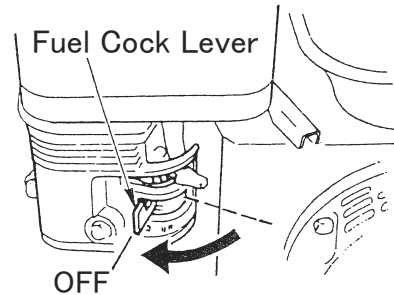

fig.13
2. For gasoline engine, shut the fuel cock. (Fig. 13)